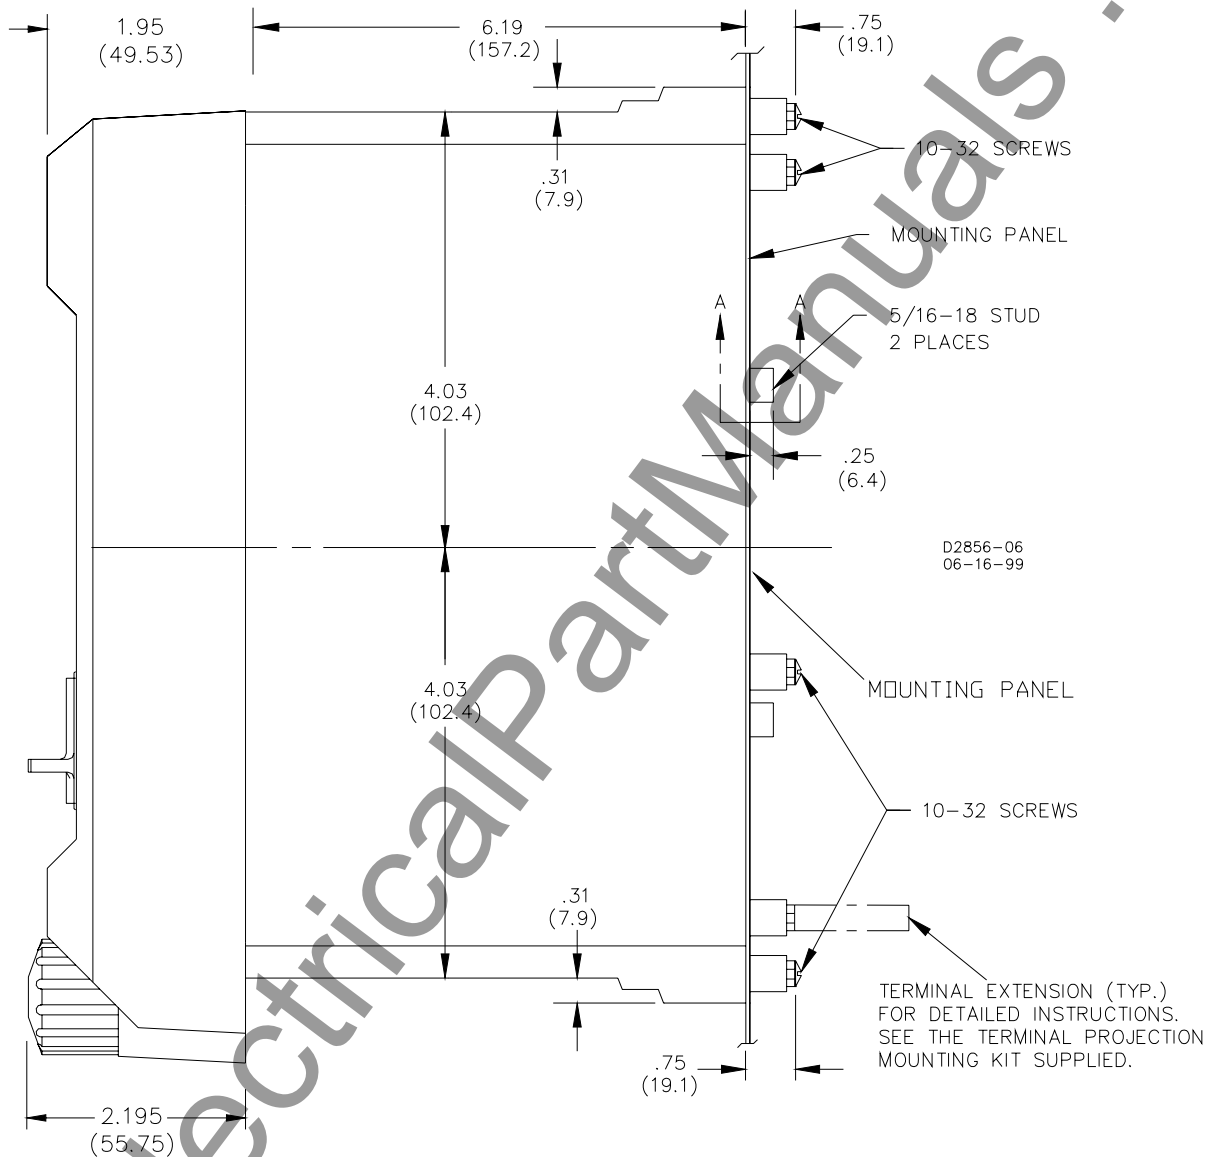

Figure 4-4. Case Dimensions, Side View, Double-Ended Projection-Mount Case
- Step 6. Connect a 50/60 Hz source to relay terminals 6 and 7 as shown in Figure 4-4. Note that this setup allows rapid switching from a voltage that is approximately one-half of pickup to a voltage ( $\Delta V$ ) that is higher than pickup. The switching also provides a means of precisely verifying the time between the voltage step change and the resulting output response.